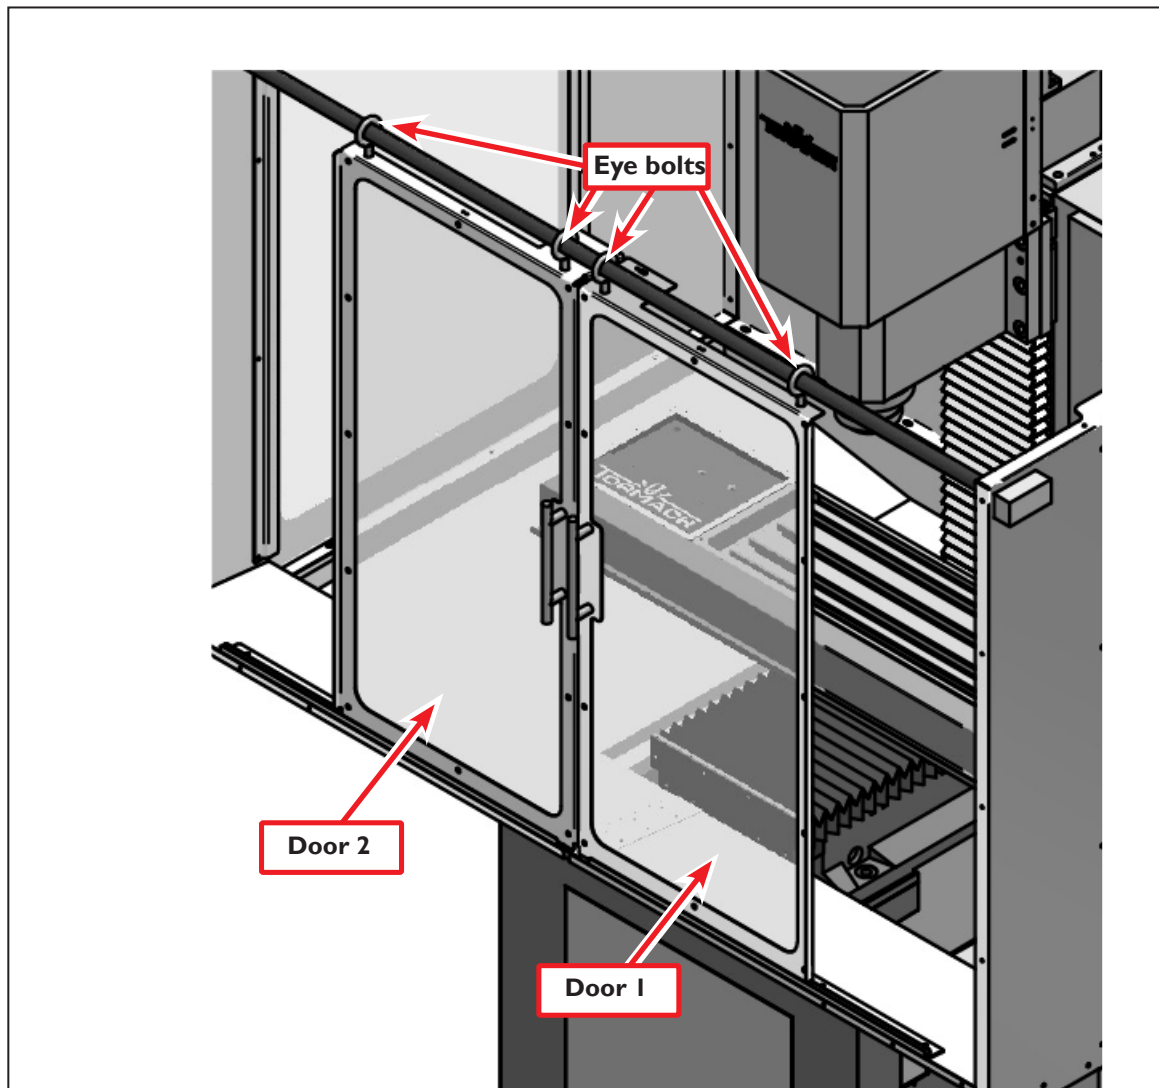

Figure 27
71. Adjust the height of Door 2 first by adjusting the eye bolt (B) nuts up and down until you have about 1/8" gap between the bottom of the door and the top of the door track (see **Figure 27**). When adjusting, make sure the door hangs level.
NOTE: Door side panels not shown in **Figure 27**.